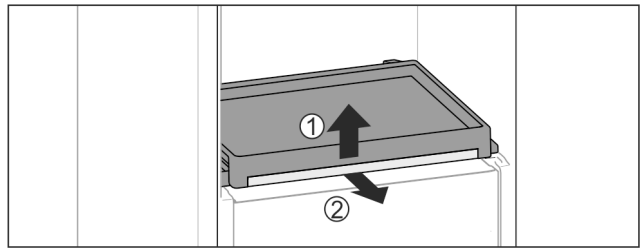

Fig. 31
- ▶ To remove the pull-out board with glass panel: Gently lift the glass panel at the front *Fig. 31 (1)* and pull out to the front *Fig. 31 (2)*.